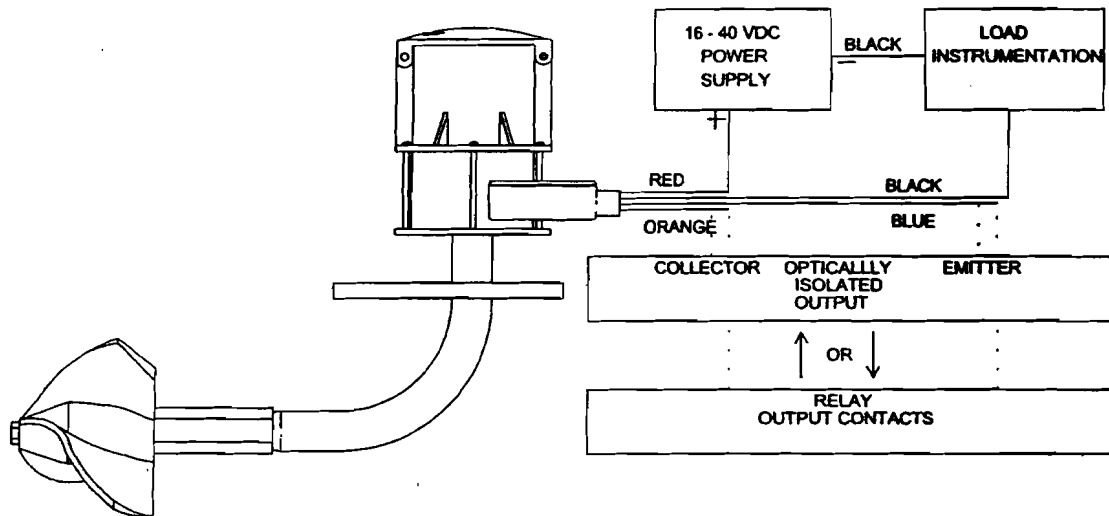

Figure 10. Electrical Connections
a. Connect the positive (+) lead from the external power supply to the terminal with the RED wire connected inside the conduit, and the negative (-) side of the power supply to the negative side of the LOAD, then connect a wire from the Positive side of the LOAD to the BLACK wire inside the conduit as shown in Figure 10.